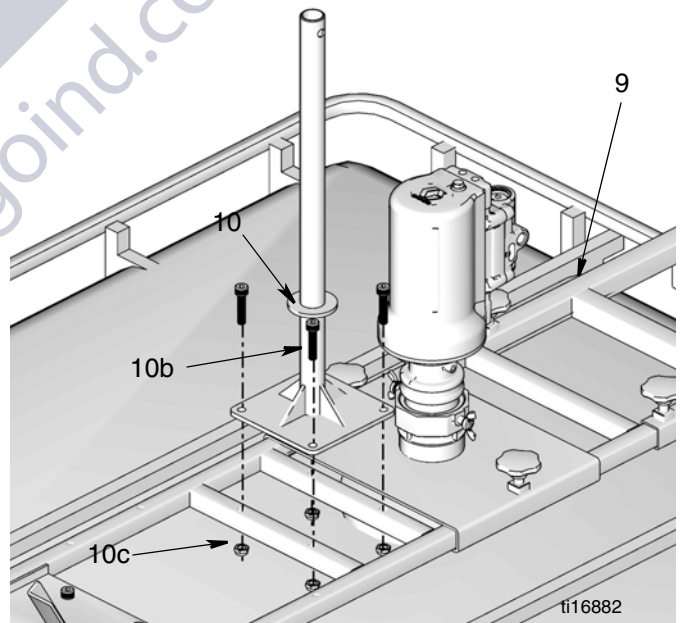

FIG. 16
- Install the reel bracket (10) to the top bracket (9). Secure in place using the 4 screws (10b) and nuts (10c) (FIG. 16).
- Install dispense device (12) to end of hose (FIG. 16). Tighten fitting securely.